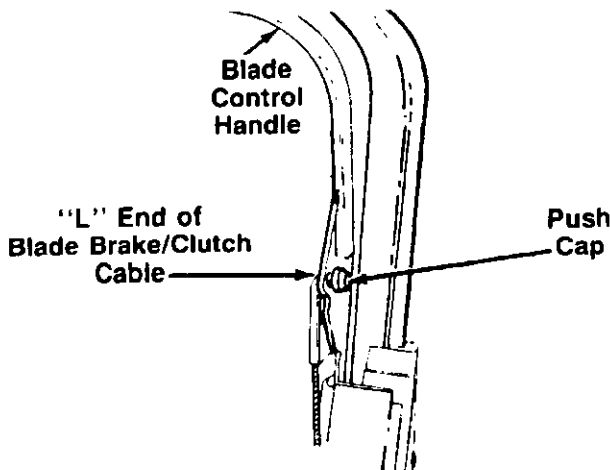

FIGURE 4.
3. Insert the "L" end of the blade brake/clutch cable into the hole in the blade brake/clutch control handle, from the inside to the outside as shown in figure 4. Hold the end of the cable, and press push cap on by hand. ←